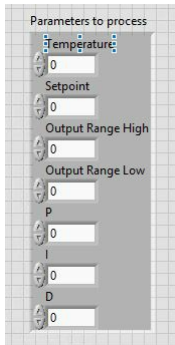

Figure 1.7
11. Add the new channels for the cluster to look like in figure 1.7